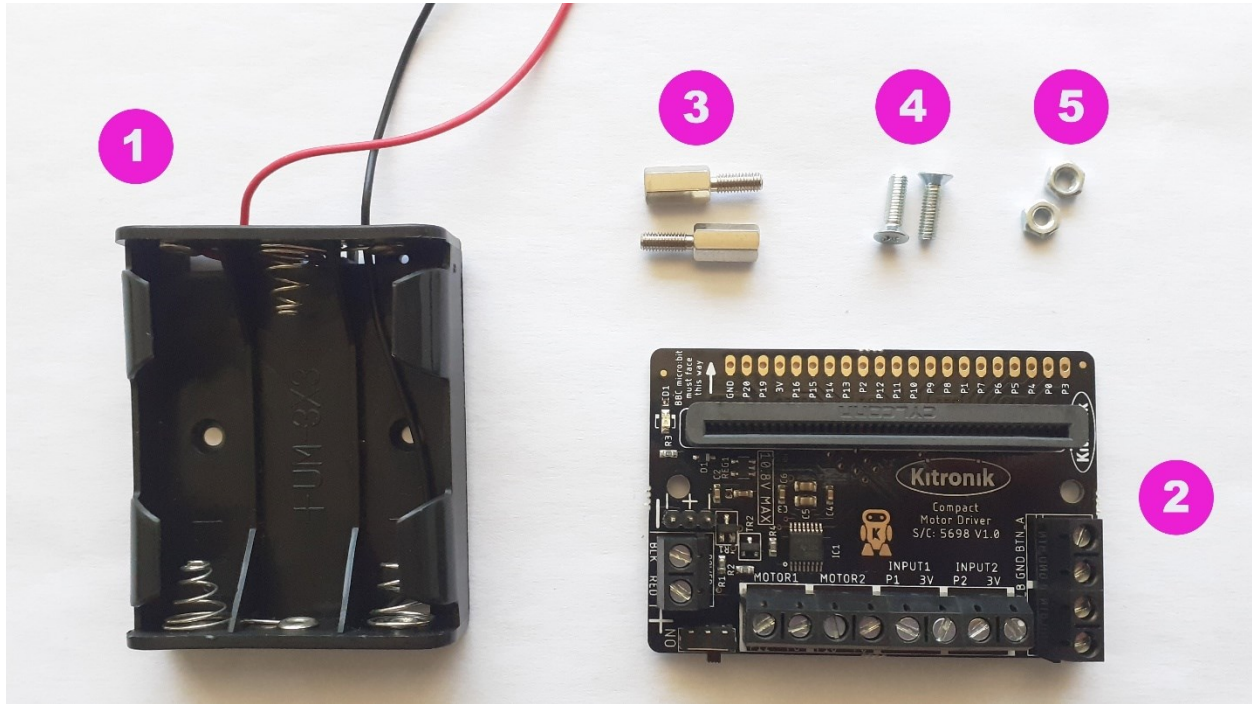

Figure 13: The component that will be attached to the top side of the chassis
Now it's time to assemble the top side of the chassis. The components that you need are: the 3AA battery holder (1), the Compact Motor Driver (2), the 2 M-F spacers (3), the 2 10mm screws (4) and the two nuts (5) (Figure 13).